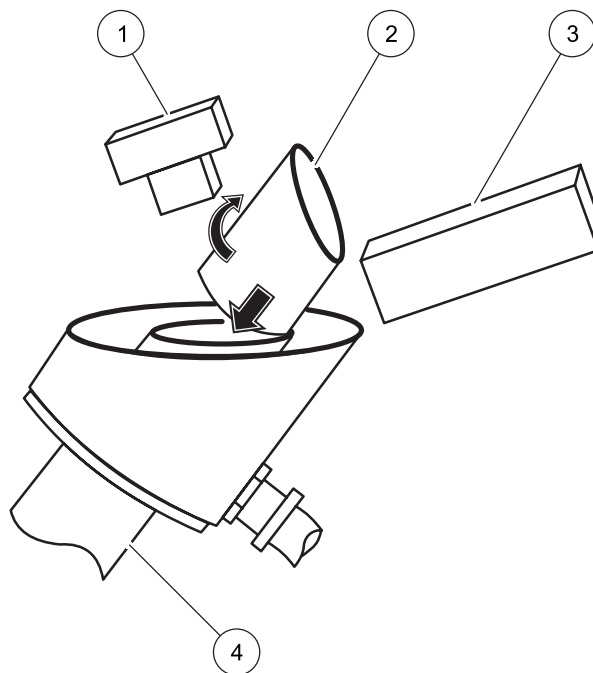

Figure 15 Installing the calibration cylinder
2. Turn off sample flow to the instrument and drain the turbidimeter body. Insert the calibration cylinder into the top of the body (Figure 15 on page 31).